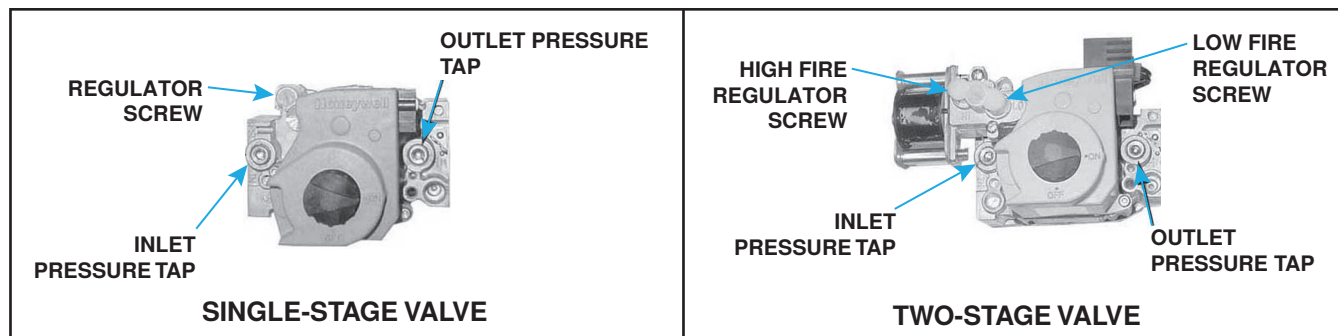

Figure 28. Combination Gas Valves
1. With manual valve (on combination valve) positioned to prevent flow to main burners, connect manometer to outlet pressure tap (see Figure 28) on valve.
3. Normally, adjustments to factory-preset regulator should not be necessary. If adjustment is necessary, set pressure to correct settings by turning regulator screw (see Figure 28) IN (clockwise) to increase pressure or OUT (counterclockwise) to decrease pressure. Consult valve manufacturer's literature provided with furnace for more detailed information.
2. Connect manometer to inlet pressure tap on combination gas valve (see Figure 28).